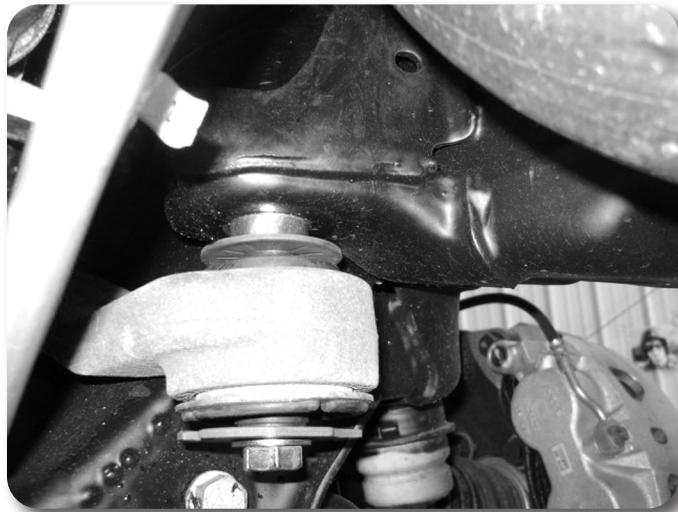

Figure 6b
14. Lower the differential and install the spacers between the frame mounting points and the factory brackets. Use the short spacer at the rear mount with 9/16" x 5" hardware. Use the tall spacer at the front mount with 9/16" x 5-1/2" hardware. Figure 6b